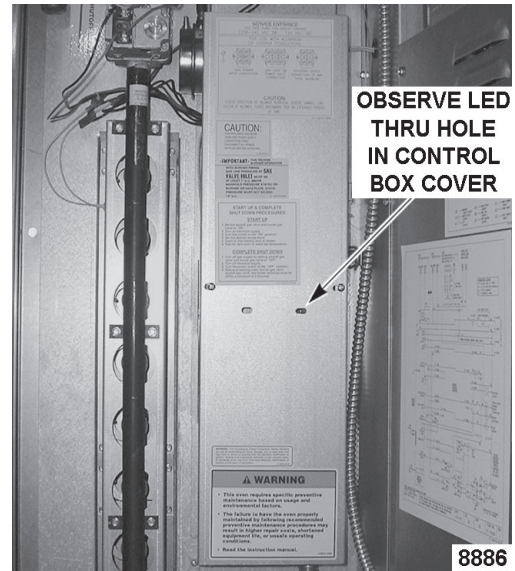

Fig. 13
- E. Observe LED light through hole in control box cover (Fig.13), after trying to light the burner three times the module should lockout. (See chart below.)
- I. Observe LED light through hole in control box cover (Fig.13), the ignition module should go into lockout. (See chart below.)